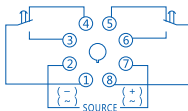

**Figure 2
3.1 Outline and installation size: see Figure 1~ Figure 2, unit: mm.